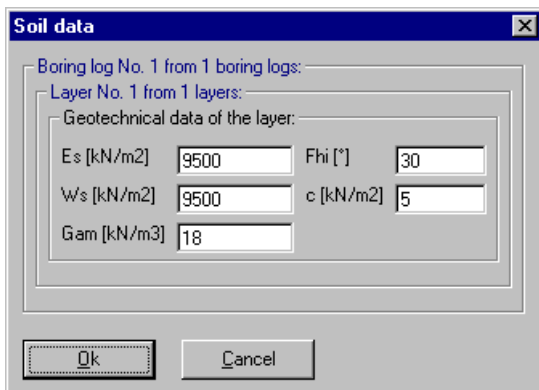

Figure 3-14 "Geotechnical data of the soil layer" dialog box
- Double-click on the geotechnical data of the soil layer. The corresponding dialog box to modify the geotechnical data of the soil layer appears (Figure 3-14)
- In the dialog group box "Geotechnical data of the layer" in Figure 3-14 define the geotechnical data of the soil layer as follows: